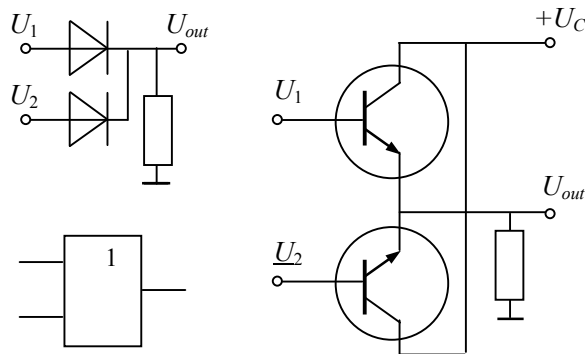

Fig. 2.60
**OR gate.** An *OR gate* is the circuit with a number of inputs and only one output. This component has a high output when at least one input is high. In Fig. 2.60, two inputs are drawn. After the entering the positive voltage to the first input, the first diode begins to conduct. By virtue of the voltage drop on the resistor, the output pulse is generated. The same result should occur after entering the pulse to the second input.